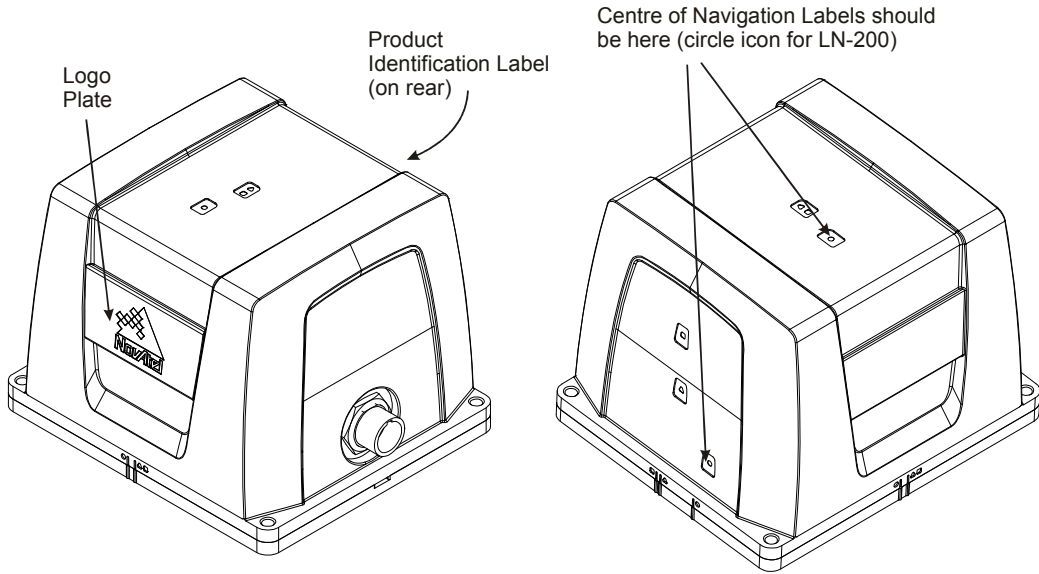

Figure 74: Final Assembly
7. Ensure the product identification label, the logo plate and the centre of navigation labels are properly affixed and contain the correct information. The final assembled unit is shown in *Figure 74*.